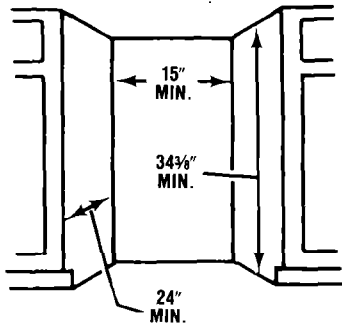

FIGURE 2
2. Measure the area you wish to install the compactor in. It must be at least 34½" (87.6 cm) high, 24" (61 cm) deep, and 15⅞" (38.4 cm) wide. See Figure 2.